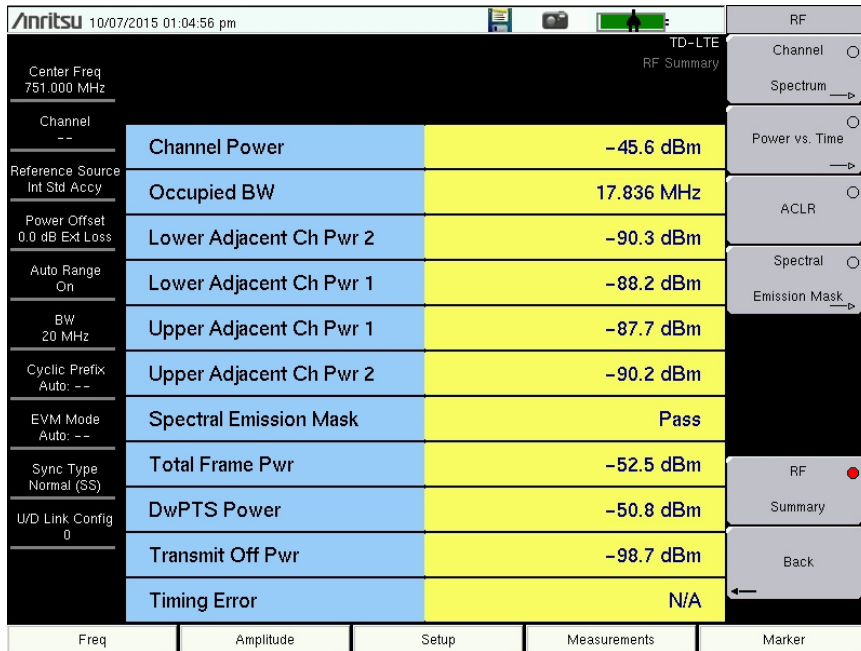

Figure 6-6. RF Summary
3. Press the RF Summary submenu key to activate and display the RF measurements in table format (Figure 6-6).